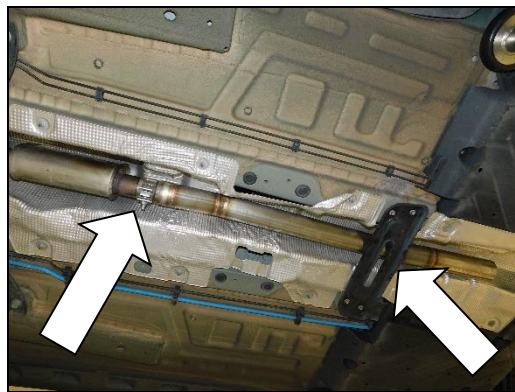

Figure 8
- Remove the tape and deburr the OE exhaust tube. Slide on (x1) supplied 2 1/4" band clamp and install the Blackheart front pipe on to the OE exhaust tube. Now, install the cross brace (**Figure 8**).